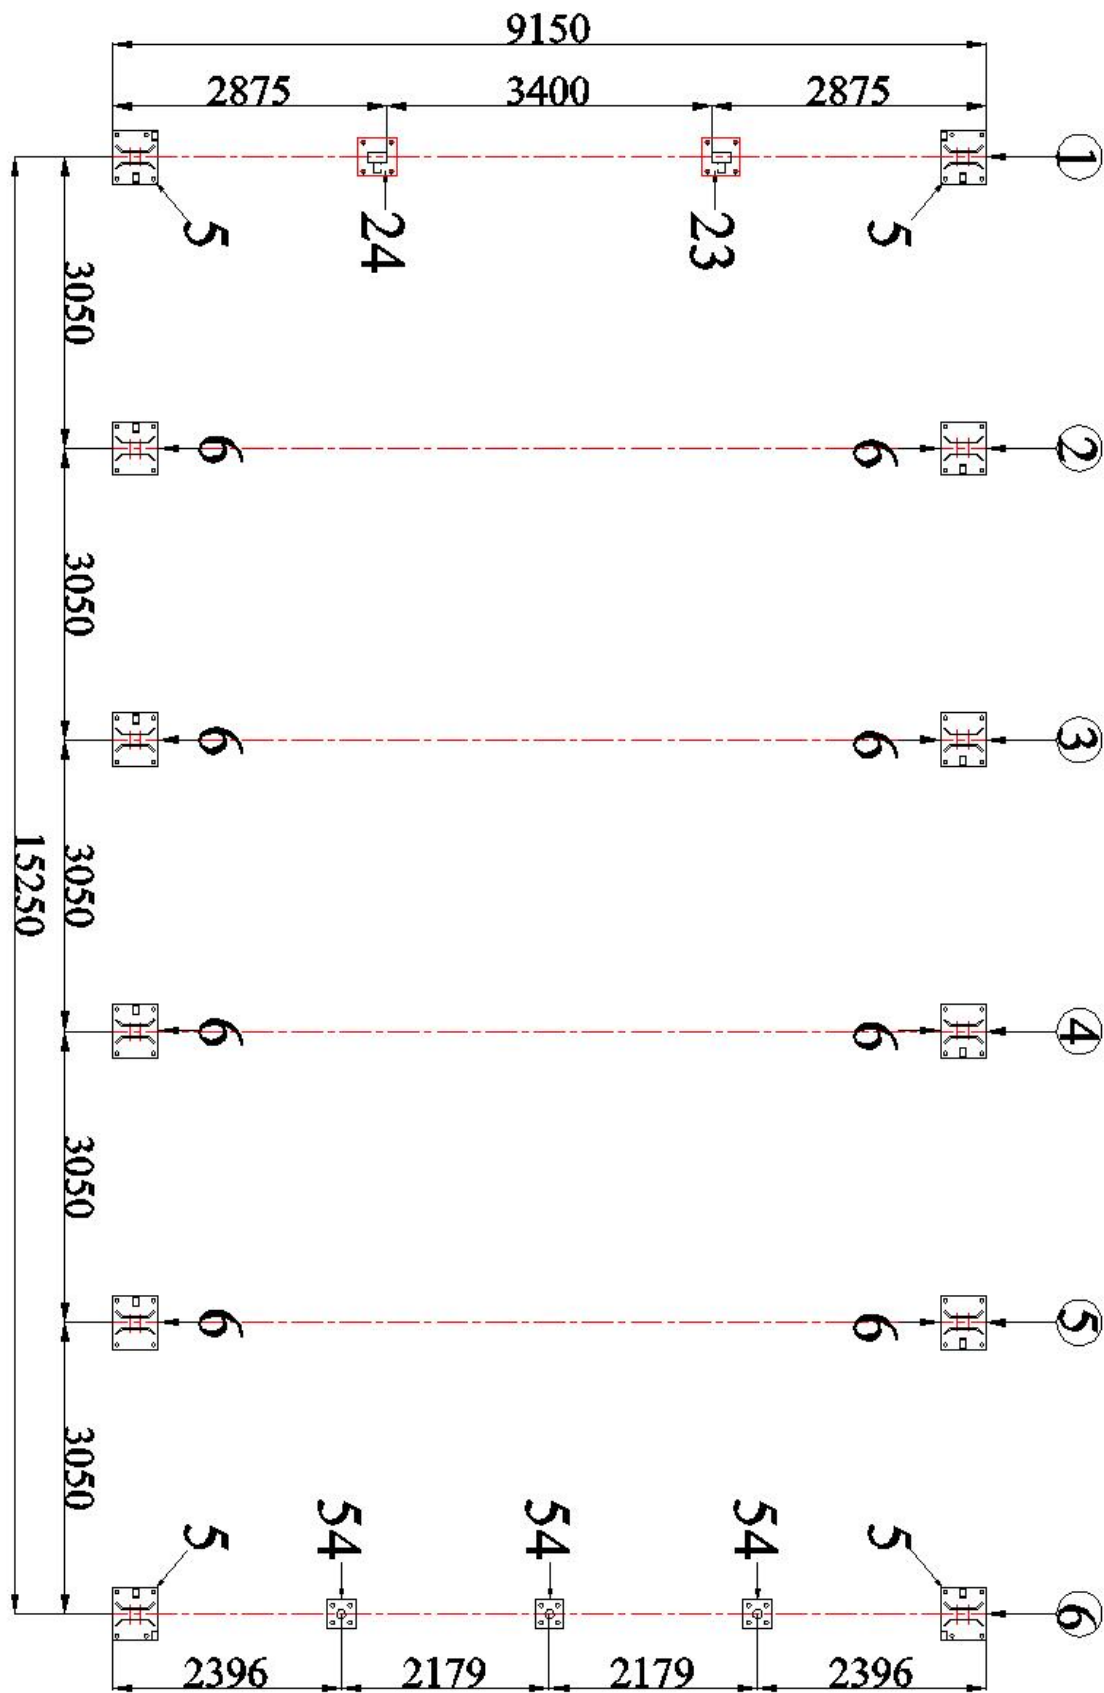

Figure. 1
1. Please refer to the diagram (Figure 1) to mark the position of base plates.